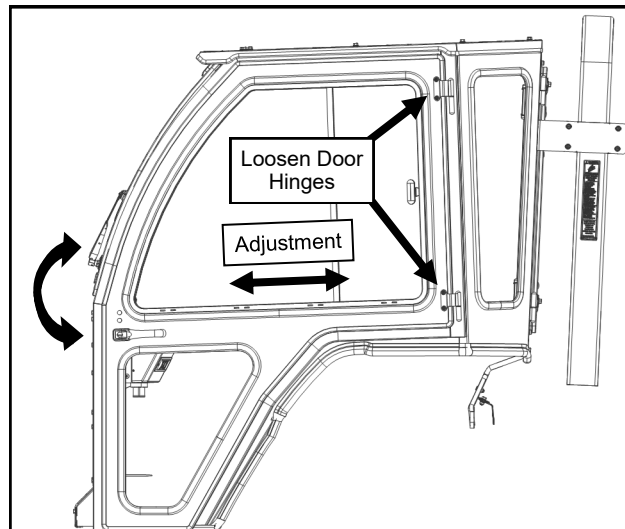

Fig. 21.3a (Door Hinge Adjustment)
21.3 Loosen the door hinges to allow for adjustment later. While lifting up and forward on the door handle, line up the door latch with the striker pin and carefully attempt to latch. You should be able to hear 2 clicks as you slowly engage the latch on the pin. If the latch is too far forward or back to latch on the pin, adjust as shown. See Figures 21.3a through 21.3c. Then retighten and latch.